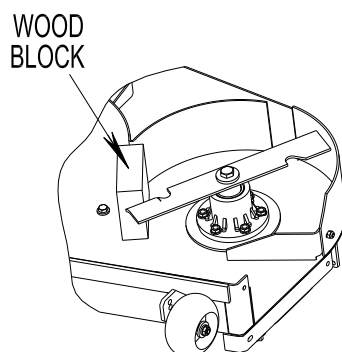

FIG 6
- Re-install the blades (if they were removed) by placing a block of wood between the front or rear baffles and the blade then torque the blade bolts to 115-120ft-lbs (156-163 N-M). Be sure the spring disk washer cone is installed toward the bolt head. (See Figure 6)